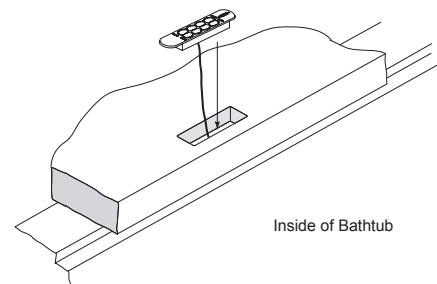

Figure 6 - Control Panel
- 5** Lower the control panel into the cutout and press firmly to embed the adhesive (Figure 6).